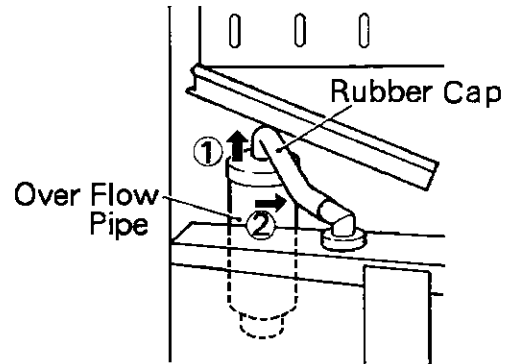

Fig. 5
- 3) Drain the Water Tank by removing the Insulation Panel and the rubber cap covering the Overflow Pipe in the Water Tank. Remove the Overflow Pipe by turning it counterclockwise. (See Fig. 5.)
3) Drain the Water Tank by removing the Insulation Panel and the Rubber Cap covering the Overflow Pipe in the Water Tank. Remove the Overflow Pipe by turning it counter-clockwise. See Fig. 5.
- 5) Drain the Water Tank by removing the Insulation Panel and the Rubber Cap covering the Overflow Pipe in the Water Tank. Remove the Overflow Pipe by turning it counter-clockwise. See Fig. 5.